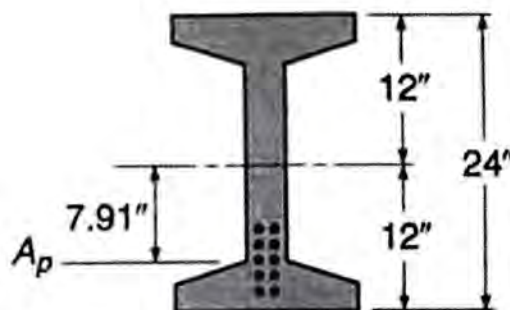

Fig: 7
9. A simply supported symmetrical I beam shown in **Fig: 7** will be used on a 40 ft span. It has to carry live load of 0.75 kips/ft. The beam will be pretensioned with multiple seven-wire strands with the centroid at a constant eccentricity of 7.91 in. The prestressing force immediately after transfer will be 158 kips, after losses the force will be 134 kips. The specified $f'_c = 5000$ psi, and at the time of prestressing $f_{ci} = 3750$. It has the following properties: